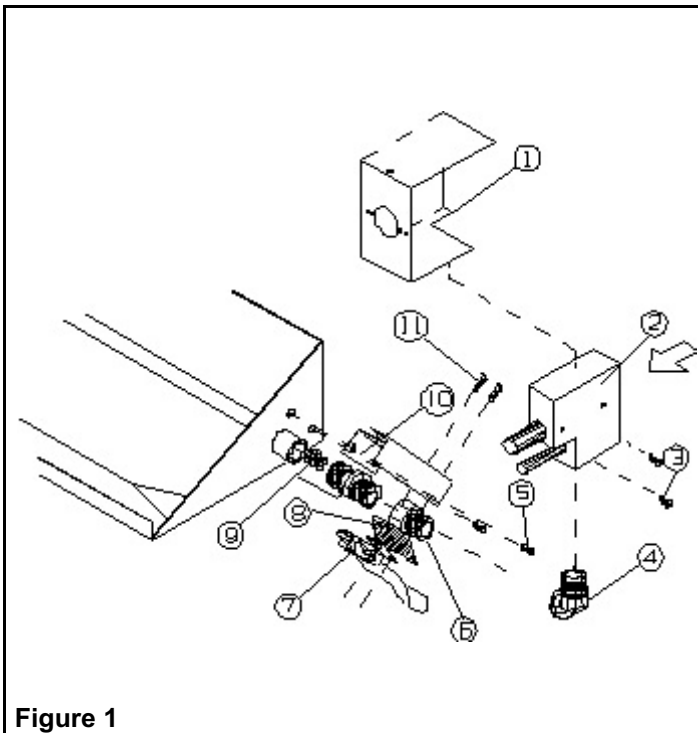

Figure 1
Determine which side of the burner pan will be used as and inlet side. Remove all safety pilot kit parts from carton and identify them with **figure 1**.
3. Install **brass elbow** from pilot kit onto the orifice fitting using a small amount of pipe thread sealer. Tighten so elbow male end is pointed up (**fig. 1**).